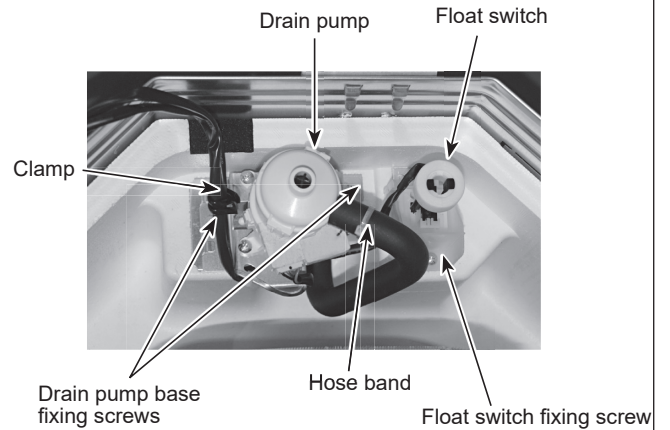

Figure 5
- (1) Remove the drain pan. (Refer to procedure 10)
- (2) Cut the hose band and remove the hose.
- (3) Loosen the clamp of the drain pump.
- (4) Remove the drain pump (tapping screw 4×10: 2 screws/2 hooks).
- (5) Cut the drain pump base and lead wire fixing band. (See Figure 5)
- (6) Remove the lead wire of the drain pump from the clamp of the drain pump base. (See Figure 5)